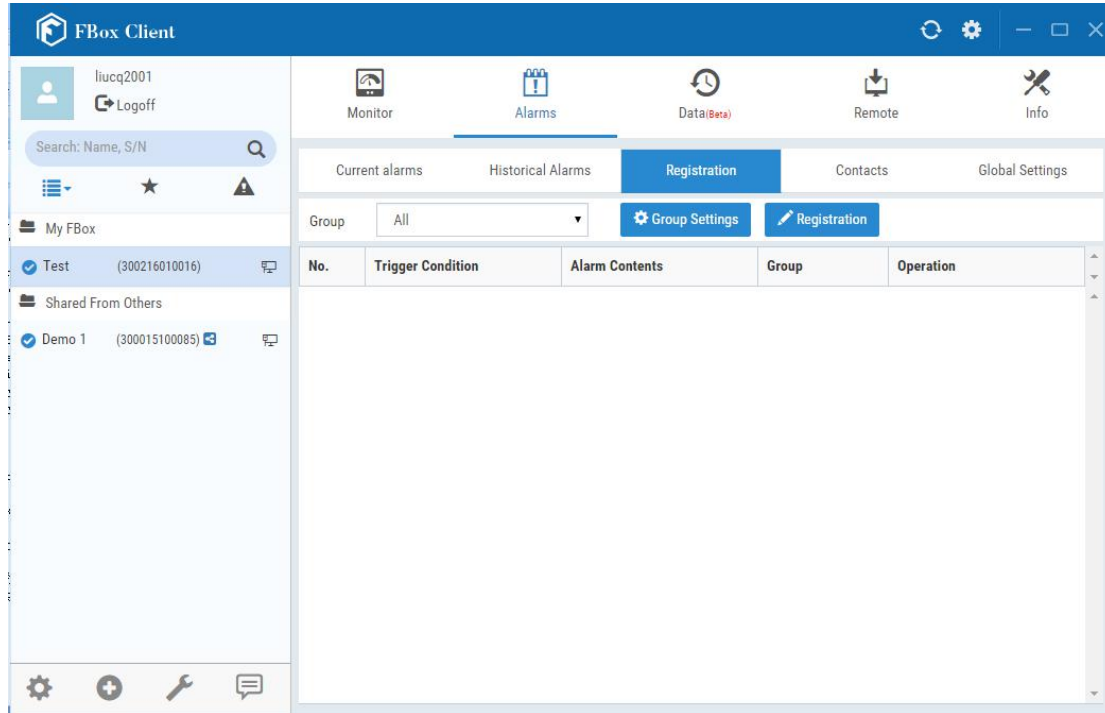

Fig. 4.8-2 The "Registration" subtab page
(1) Sign in the FBoxClient software, select the FBox device in the FBox device list area, and then click the "Alarms" function button. Select the "Registration" subtab, the page will display as shown in Fig. 4.8-2.